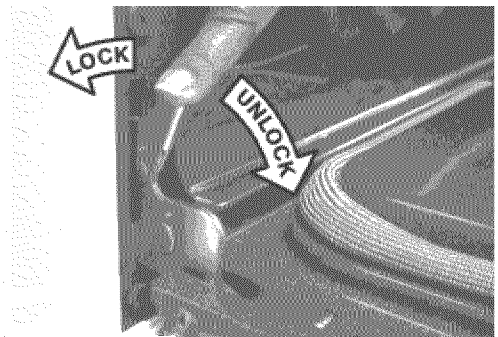

Fig. 2
4. Push the door hinge locks up towards and into the oven frame on both left and right oven door hinges (See Fig. 2) to the locked position.